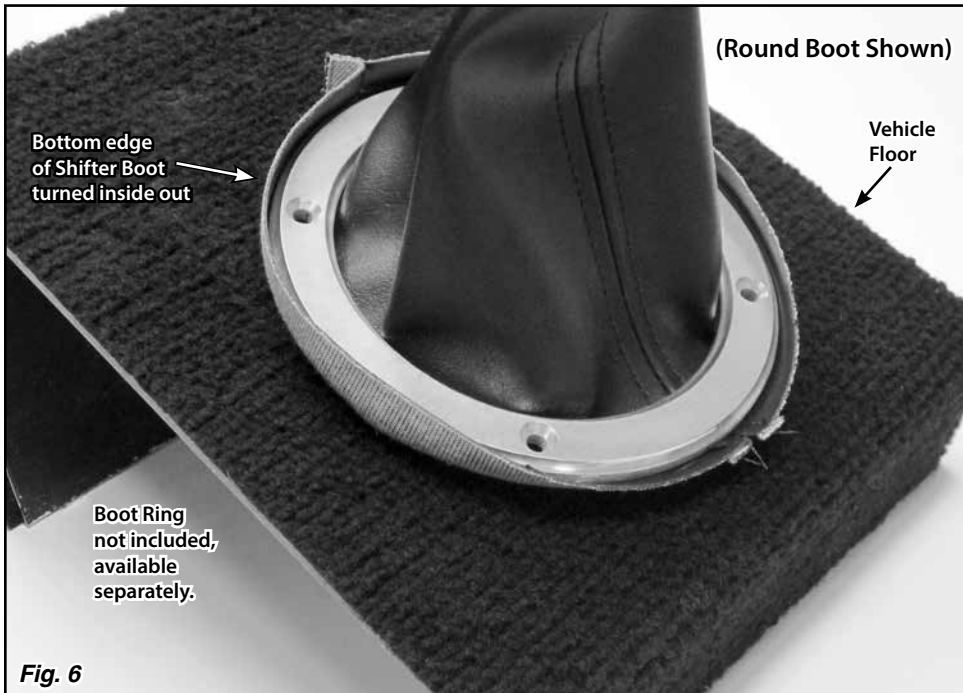

Fig. 6
Step 8: Install the Boot Ring over the Shifter Lever and Boot. Turn up the bottom edge of the Boot, stretching and flipping the bottom edge inside out so it wraps around the outside edge of the Boot Ring. **Fig. 6** Get the Boot Ring positioned correctly against the top of the tunnel.